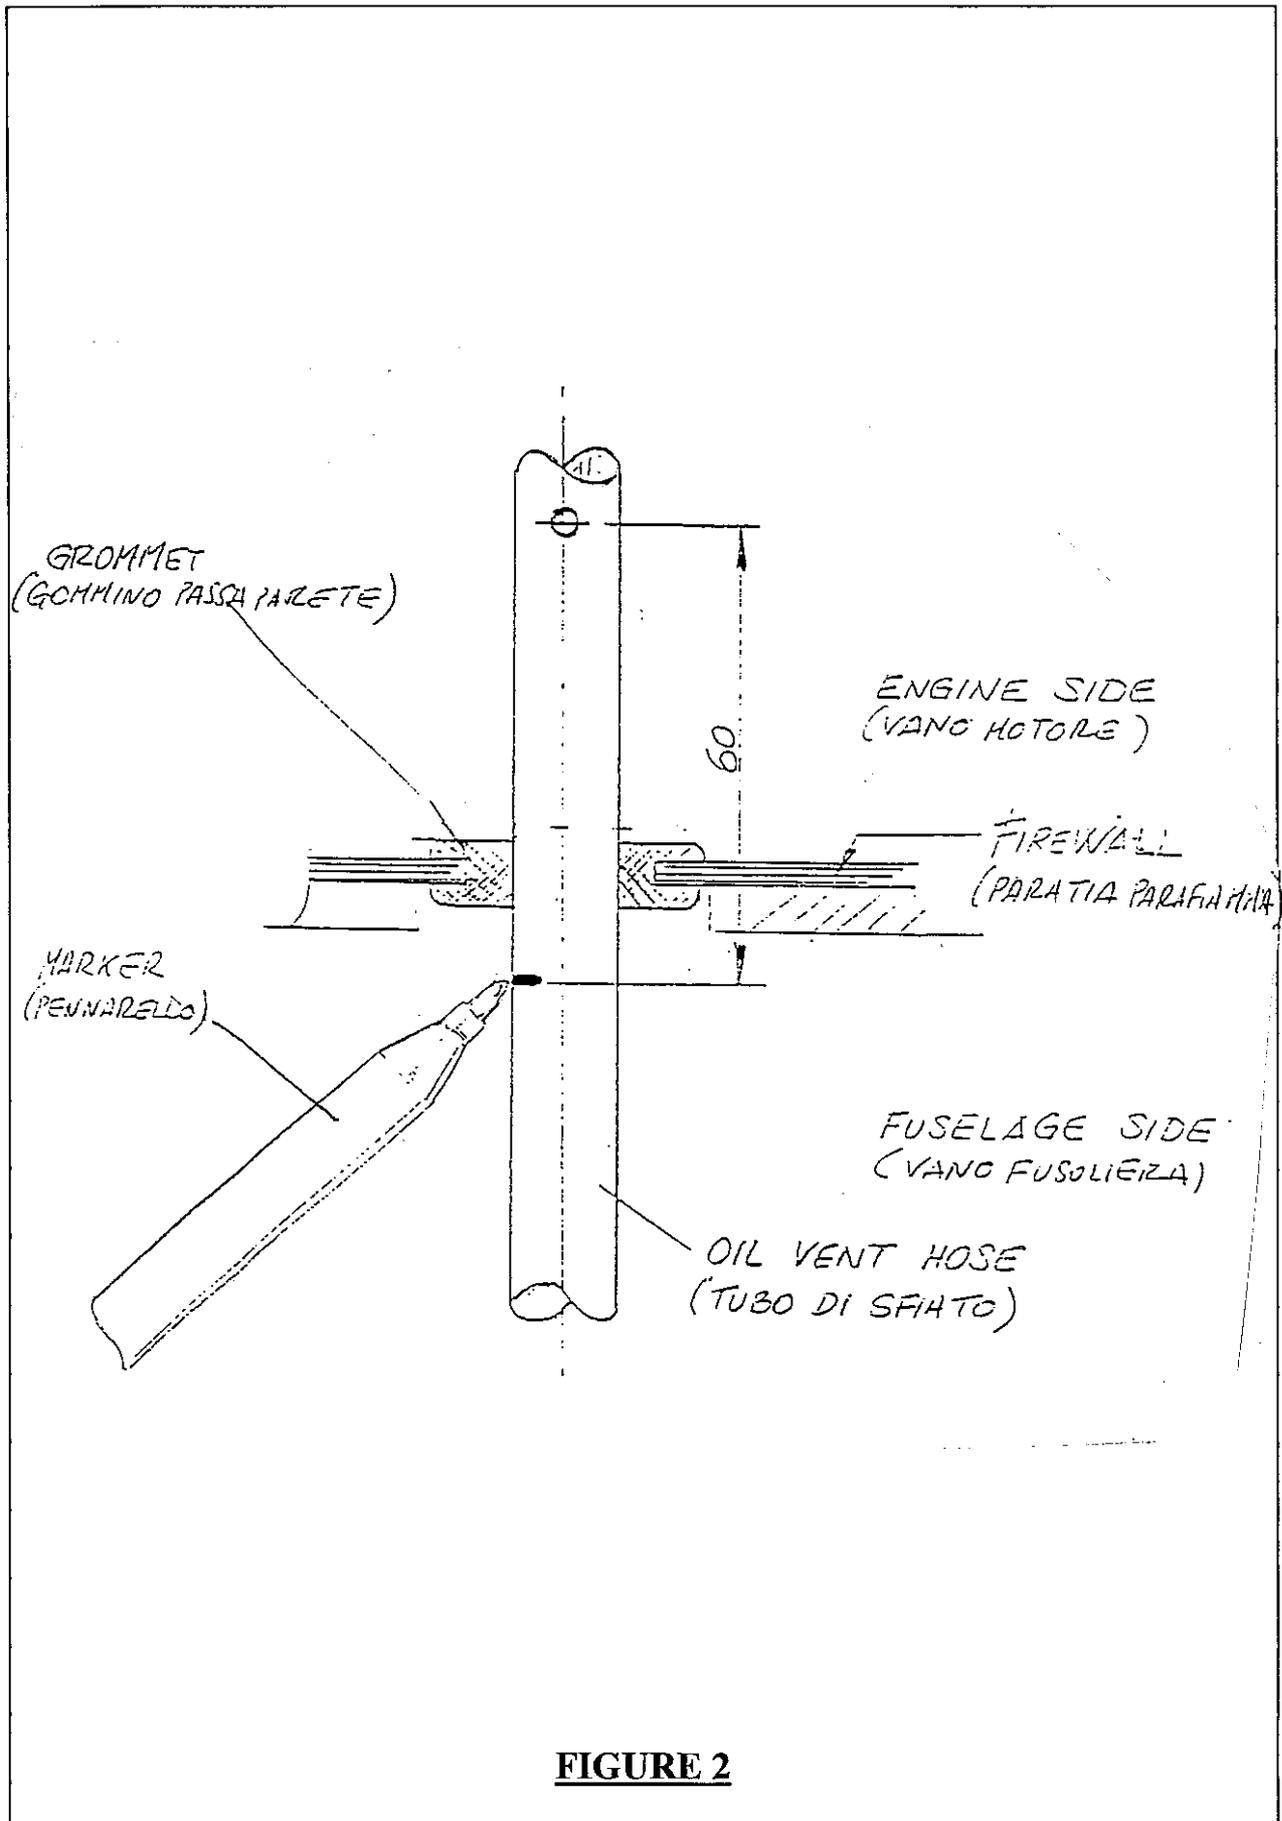

FIGURE 2
7. *Drill, on one tube side only, a 4mm diameter hole, 60 mm distant from the sign previously marked in the direction of oil tank. In this way, when the oil vent hose will be installed again, the bypass hole remains in the engine side. See figure 2.*